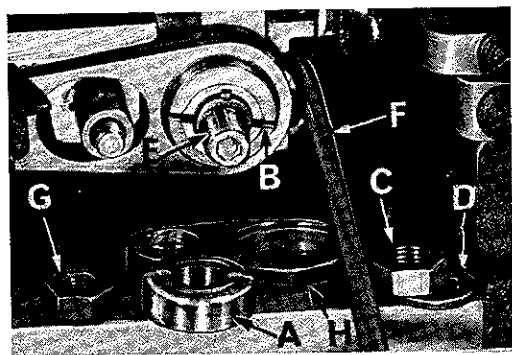

Fig. 15
If eccentrics are unusually tight fitting, in addition to removing nut (C) and washer (D, Fig. 15) from shaft (E), it may be helpful to remove nut (D) and feed driving connection (H). Then continue as originally suggested.